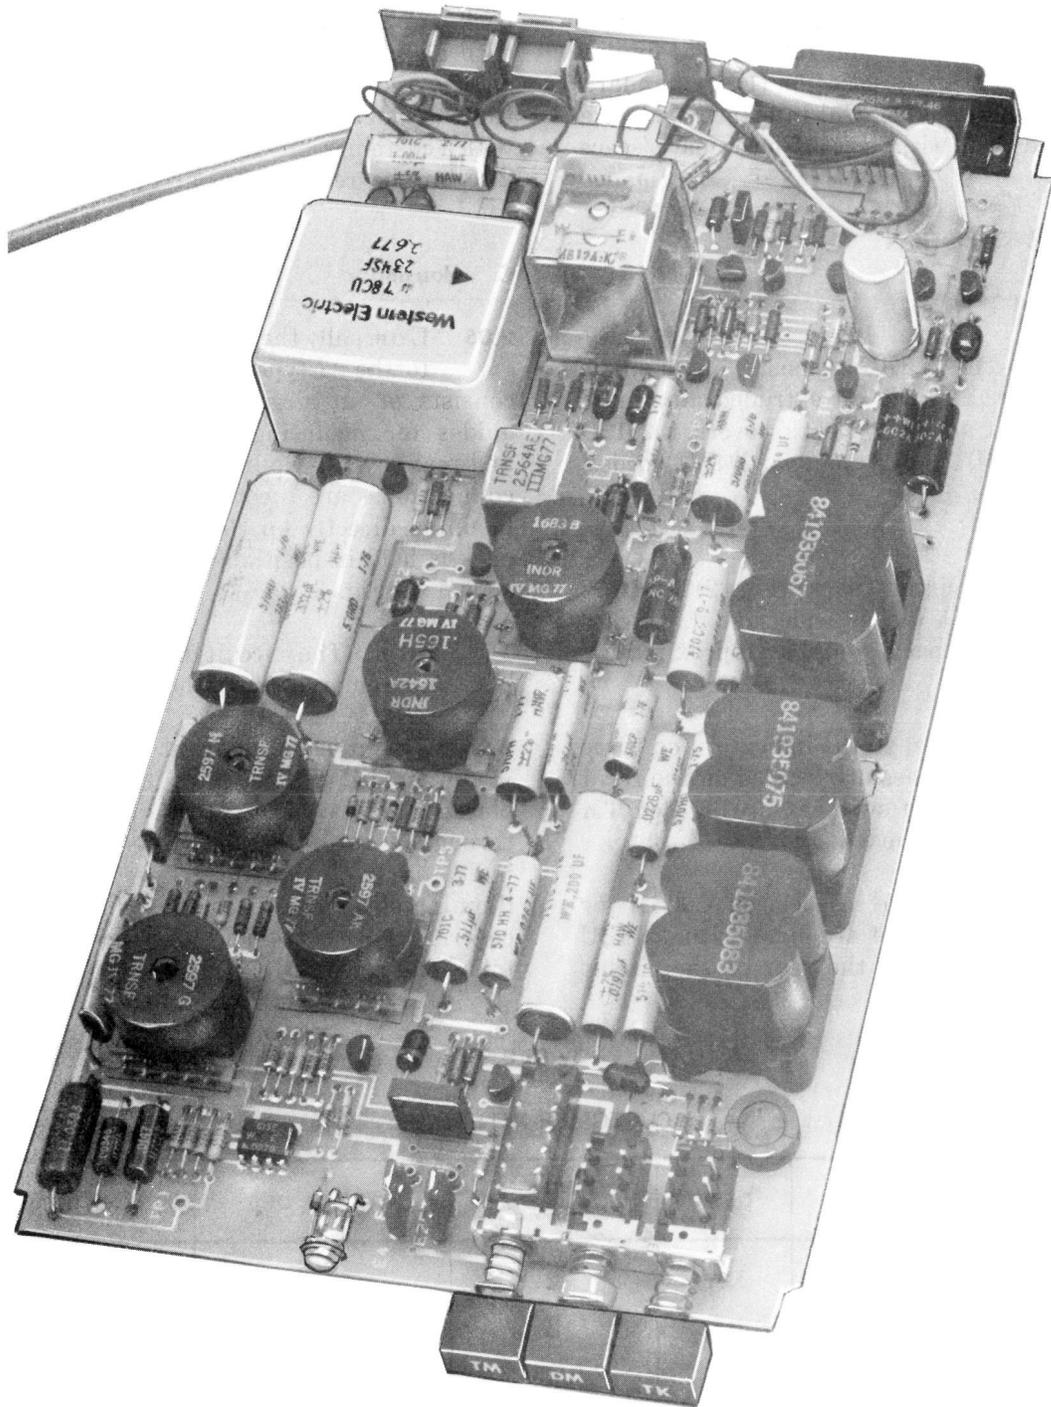

Fig. 2—Circuit Pack Removed From Housing
2.02 The printed circuit pack (Fig. 2) is 10.26 inches long, 5.5 inches wide, and 1.5 inches high. The circuit pack weighs approximately 2 pounds.